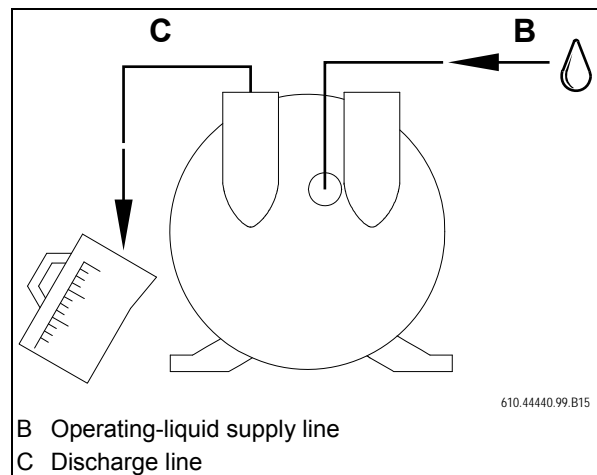

Fig. 14: Adjusting the operating-liquid flow-rate: Measuring the flow-rate using a measuring cup
- by measuring the quantity of operating-liquid per unit of time flowing from the discharge connection using a measuring cup (Fig. 14, page 22)